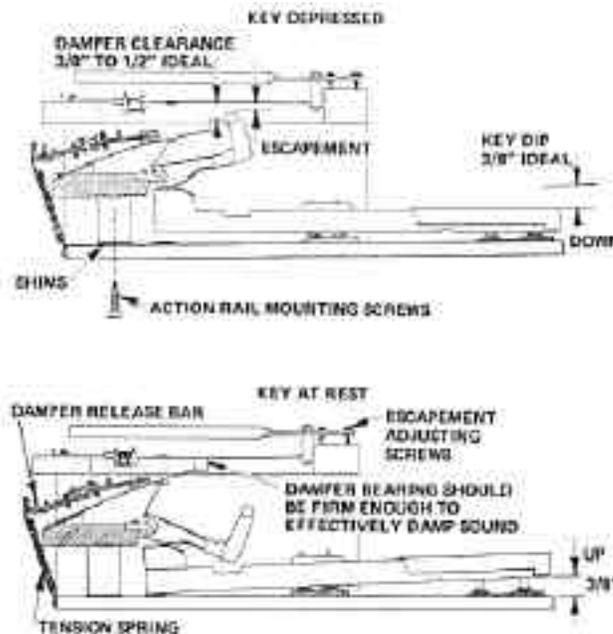

Figure 10-1. RHODES Early Design Single Key Views
1. **Key Dip.** Key Dip and Hammer travel are controlled by the height of the Action Rail. Key Dip is the term used to describe the downward limit of travel of the Key when depressed. 3/8" (9.525mm) is ideal. This is controlled by means of shims (Figure 10-1) placed between the Action Rail and the Key Frame. To adjust, remove the entire Action Rail from the box. Along the back of the Key Frame under the Action Rail will be five wood screws. Remove these, then either remove shims or add shims depending upon whether you wish to reduce or increase the Key Dip.